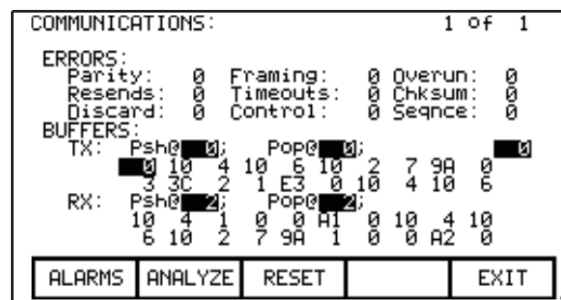

Figure 243 - Communications Statistics & Buffer
Figure 243 shows statistics for serial communications between the operator interface and the drive, and the Transmit (TX) and Receive (RX) buffers' contents. Call the statistics function from any screen (except PRINTER) by pressing [F10] + ▼ simultaneously.